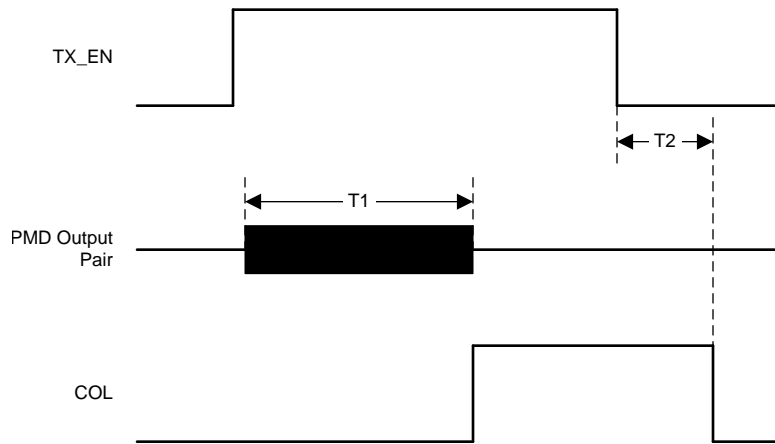

图 14. 10BASE-Te Jabber Timing
- (1) Ensured by production test, characterization or design.
(2) See 图 14.